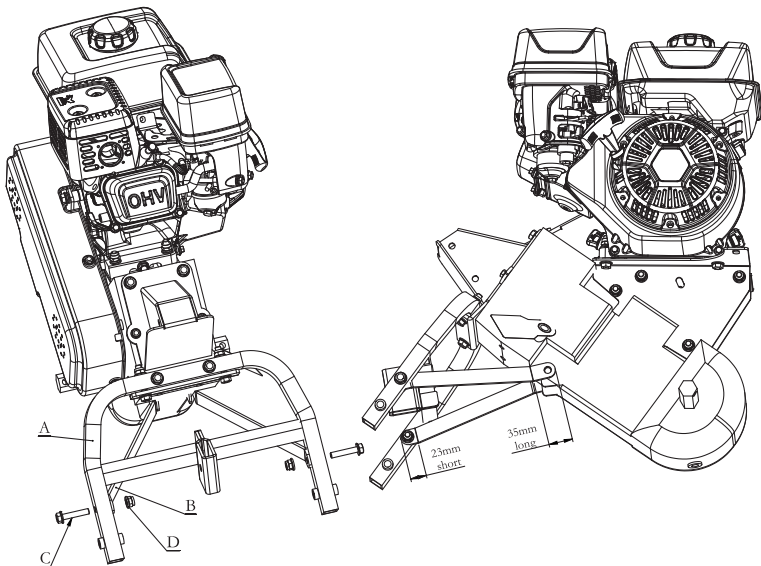

Fig. 2
Step 2 Assembly of the connecting plate (See Figure 2)
- a. Mount the short end of the connecting plate (B) on the inside of the wheel bracket (A) using 2p M8x40 bolts (C) and 2 M8 nuts (D);